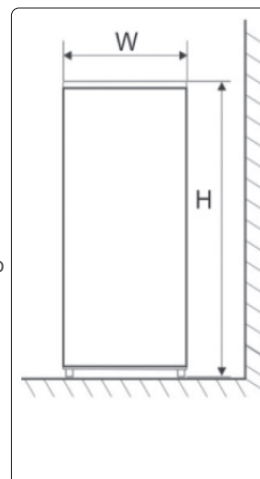
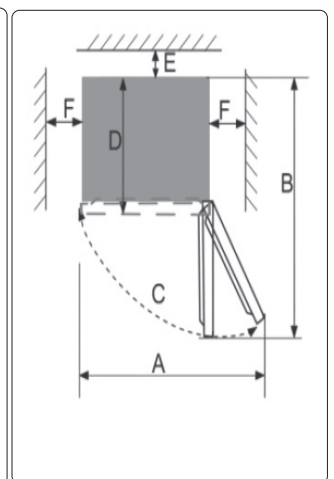

fig.10
fig.11
• NOTE: Fig.10, Fig. 11 illustrate the space required around the unit installation.